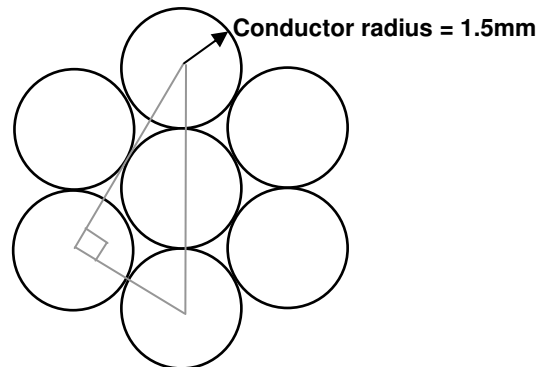

Figure B4.1: 7-strand conductor
- a. Show that, if skin effect is neglected, the component of self-inductance due to the magnetic field within a solid circular conductor is independent of the radius of the conductor. (5)
- b. Show that the geometric mean radius of the 7-strand conductor shown in Figure B4.1, in which the radius of each strand is 1.5mm, is approximately 3.27mm.